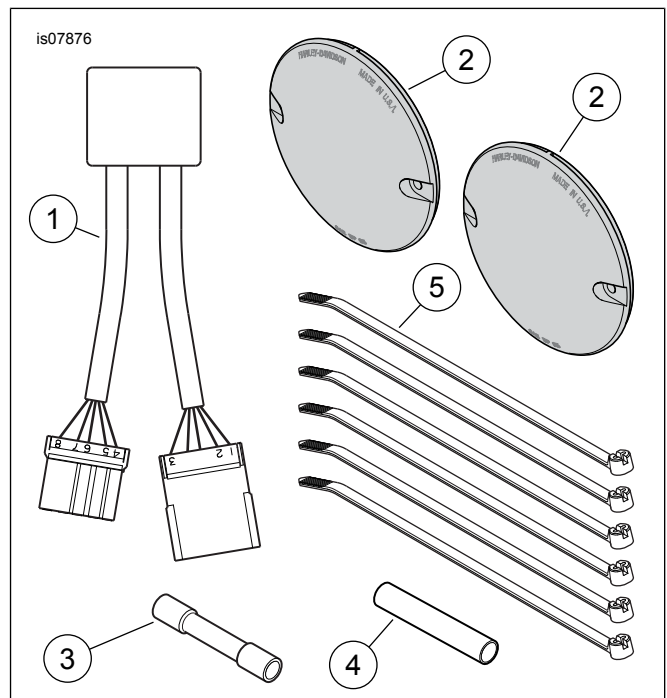

Figure 3. Service Parts, Auxiliary Brake/ Run/ Turn Signal Conversion Kit
See Figure 3 and Table 1.
2. See Figure 3. Get the turn signal module (1) from the kit. Mate the module connectors to the connectors from Step 1. Snap into place.
6. See Figure 3. Get one of the red turn signal lenses (2) from the kit. Install the red lens into the rear turn signal housing. Fasten with the original screws. Tighten securely. Repeat for the other lens.